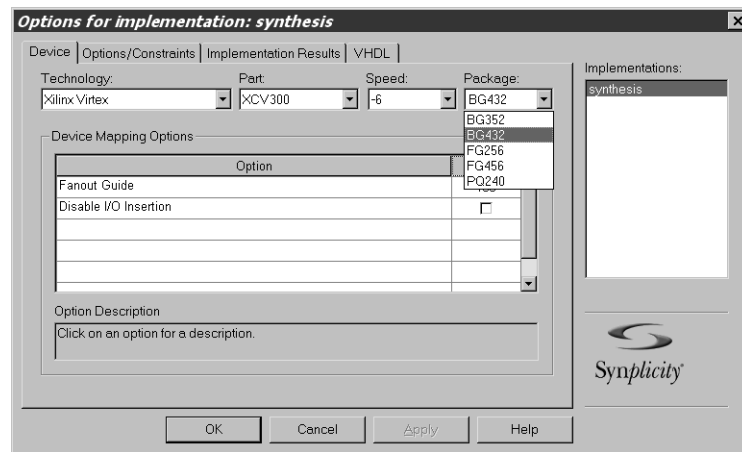

Figure 5-13: Options for Implementation
13. Click Change Target to display the Options for Implementation dialog, as shown in Figure 5-13.